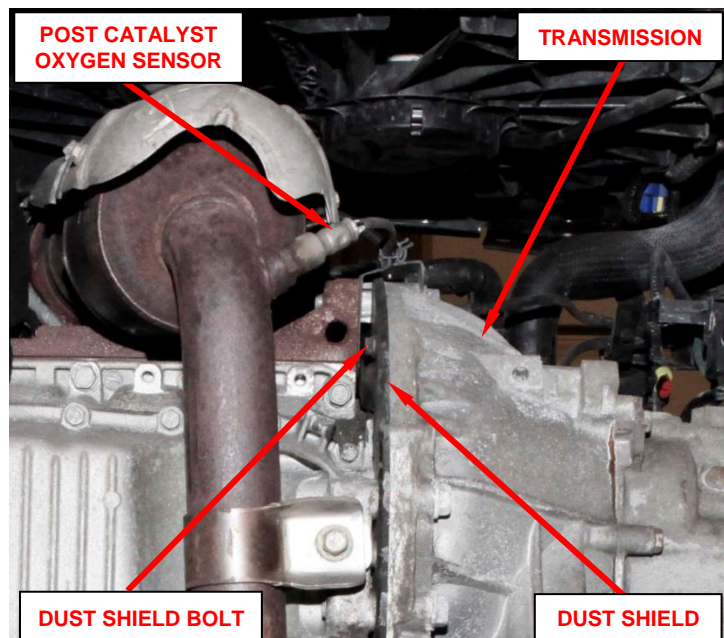

Figure 49 – Transmission Dust Shield Bolt
56. Remove and save the bolt from the transmission dust shield. Bolt is located near the post catalyst oxygen sensor (Figure 49).
91. Install the bolt to the transmission dust shield and tighten the bolt securely. Bolt is located near the post catalyst oxygen sensor (Figure 49).